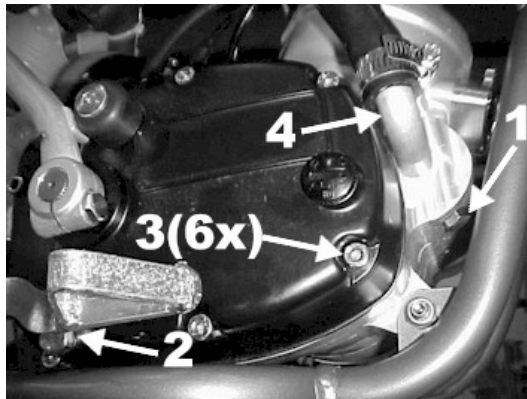

Figure 40
4. Drain engine transmission oil by removing drain screw using a 13mm- hex wrench. (item 2 in the figure below).
5. Remove left side radiator hose and unscrew coolant fitting with a 8mm hex key. (Figure 40)